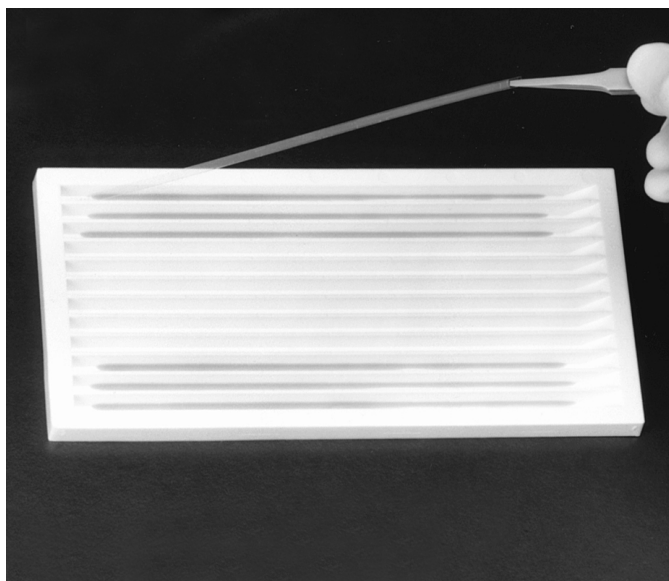

Fig. 4. Placing IPG strips gel side down onto the protein samples.
Gently place the strip gel side down onto the sample as illustrated in Figure 4. The “+” and “pH 4-7” should be legible and positioned at the left side of the tray. Take care not to get the sample onto the plastic backing of the strips as this portion of the sample will not be absorbed by the gel material. Also take care not to trap air bubbles beneath the strip. If this happens, carefully use the forceps to lift the strip up and down from one end until the air bubbles move to the end and out from under the strip.
5. At the end of the 10 minute incubation, discard the used equilibration buffer I by carefully decanting the liquid from the tray. Decanting is best carried out by pouring the liquid from the square side of the rehydration/equilibration tray (left side in Figure 4), until the tray is positioned vertically. Take care not to pour out the liquid too quickly at first as the strips may slide out of the tray. When most of the liquid has been decanted, “flick” the tray a couple times to remove the last few drops of equilibration buffer I.